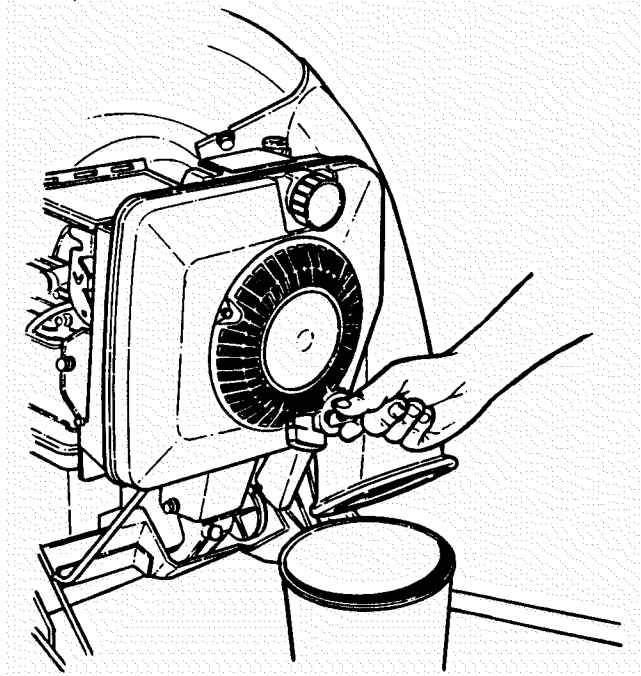

FIGURE 3.1A
2. For simplest/cleanest oil change, loosen lower handle wing nuts and stand mower up on lower handle as shown in Figure 3.1A. Drain oil through dipstick tube into a container.